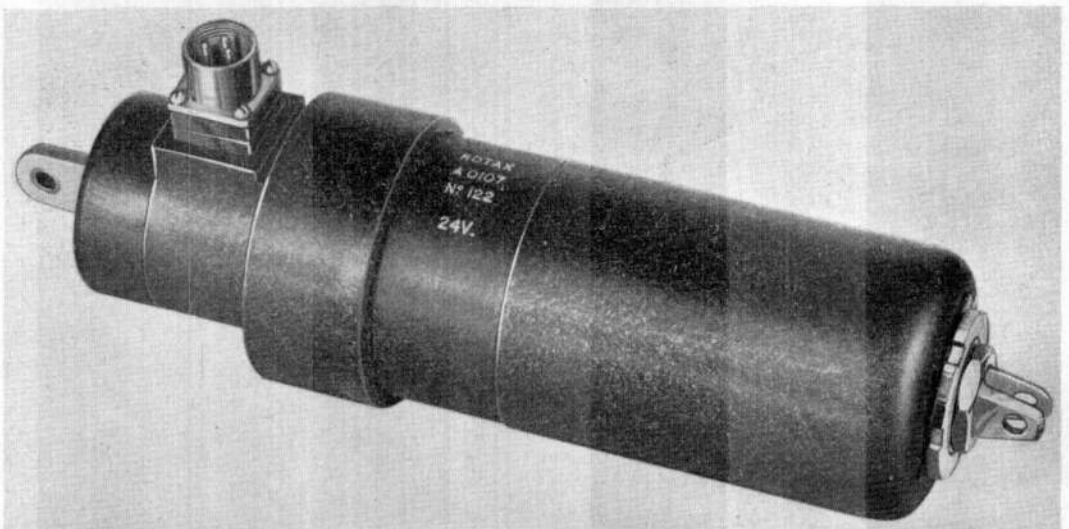
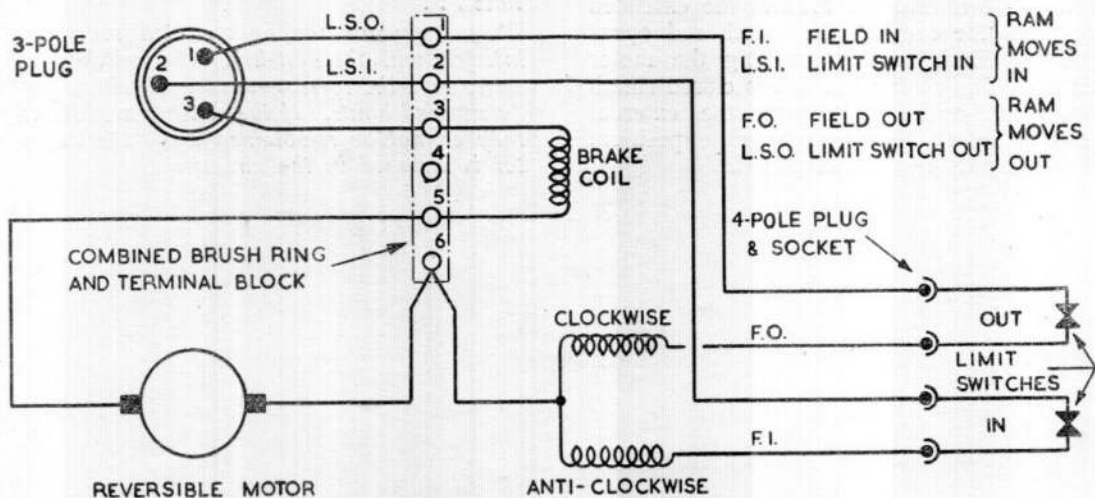

Fig. 1. Typical actuator, A0100 group
Fig. 3. Typical circuit diagram
1. Rotax linear actuators of the A0100 group follow the general design described in this Appendix; a typical machine is illustrated in fig. 1 and 2, and a typical circuit diagram is given in fig. 3. Specific details of individual actuators will be found in A.P.4343D, Vol. 1, Sect. 14.